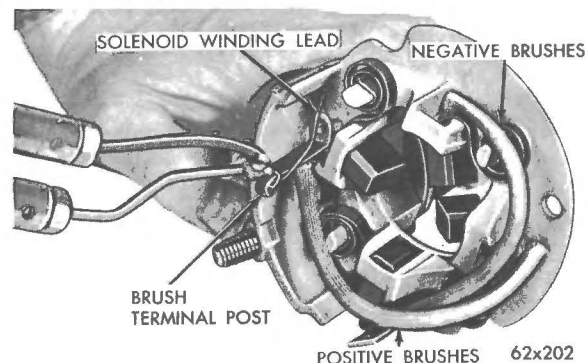

Fig. 8 Unsoldering Solenoid Winding Lead
(9) Unsolder the solenoid winding from the starter brush terminal (See Fig. 8).
(10) Remove nut (11/32 wrench), steel washer and nylon washer from solenoid terminal.